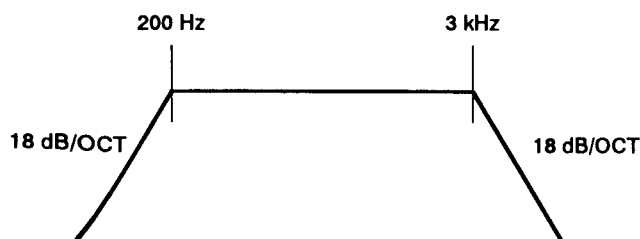

Fig. 10-34.
- *1: Value when a distortion measuring filter (Fig. 10-34.) is used. Less than 1.0% when no filter is used.